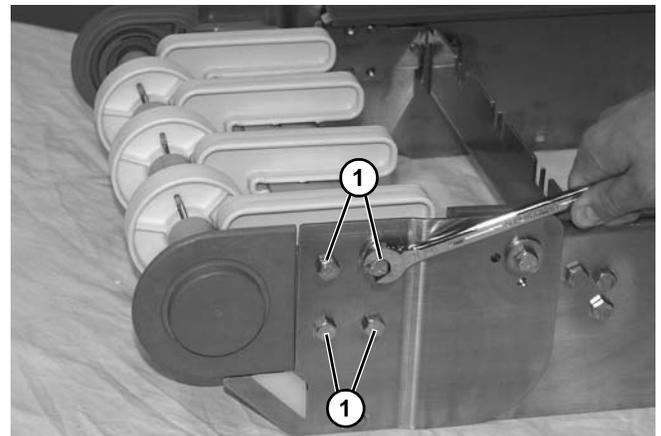

Figure 52
2. Remove four headplate screws (Figure 52, item 1). Repeat on opposite side of the conveyor.